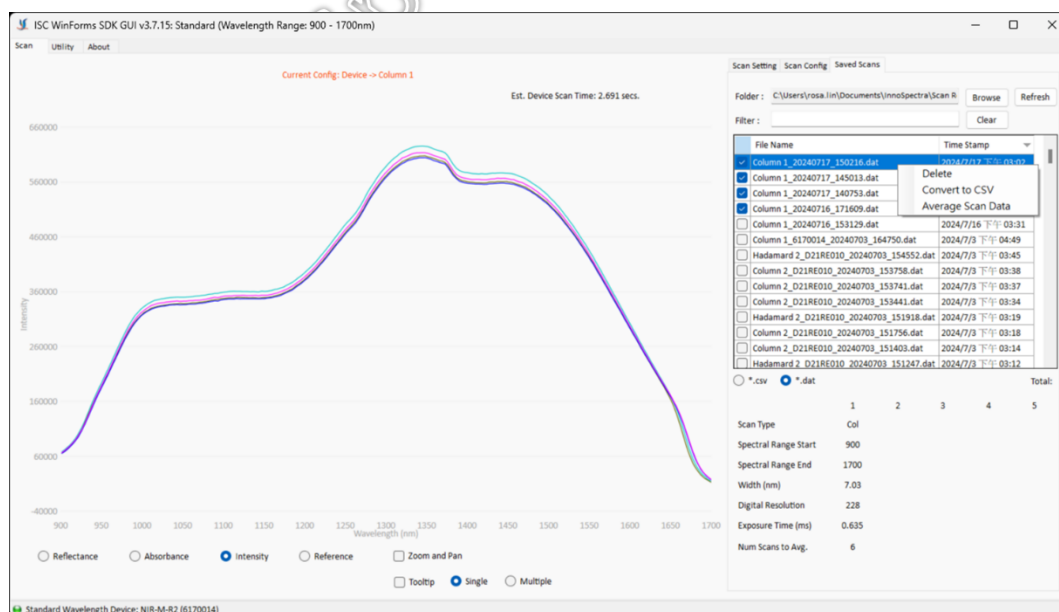

Figure 1-4 Saved Scans
- To plot a file, select one of the files as shown in Figure 1-4. The selected file will show the scan configuration used at that time. It also supports multiple selection and overlay functions. If selecting multiple scan files, the scan configuration only displays the latest selected information.